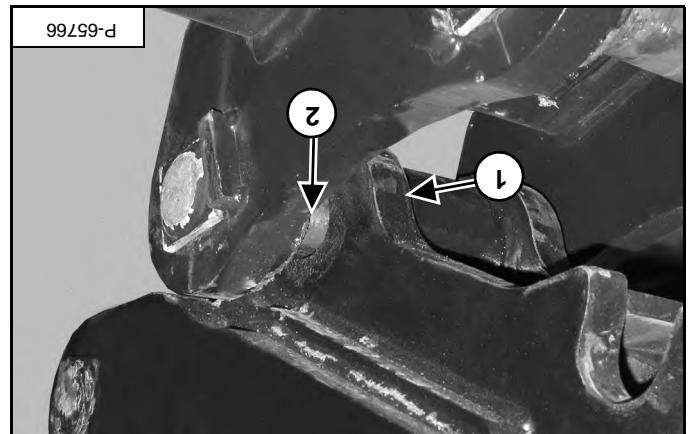

Figure 92
Position the front hooks (item 1) over the front pin (item 2) [Figure 92] of the attachment.